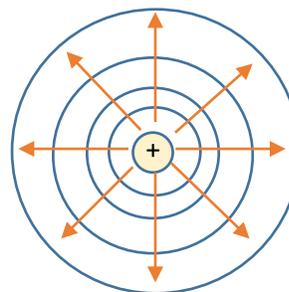

Figure 5: Electric field map of a positive point charge. The equipotential lines are shown in blue.
Figure 5 shows a positive point charge. The E-field lines are shown in orange, pointing radially away from the charge. This indicates the potential is decreasing as you get farther away from the charge. The blue circles are called **equipotential** lines, lines of equal potential. In other words, these indicate places where the voltage (potential) does not change (is equal). *No work must be done to move a charge along those lines*. It does take work (or energy) to cross lines.
These circles are analogous to the elevation on a topographic map. Each line is drawn at a given voltage interval (for example, every 3 Volts) just like in a topographic map a line would be drawn for every so many feet. The closer the lines are together, the steeper the slope. We can see in Figure 5, the slope is steeper near the charged particle. Equation (6) tells us that the electric field is stronger closer to the charged particle.